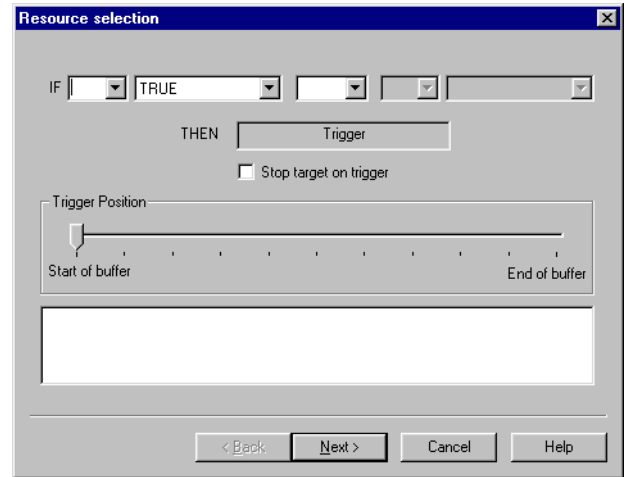

Figure 8-44 Resource selection for Trigger
1. Double-click **Trigger** in the Actions list to define a rule. The Trigger Resource selection dialog box shown in Figure 8-44 is displayed.